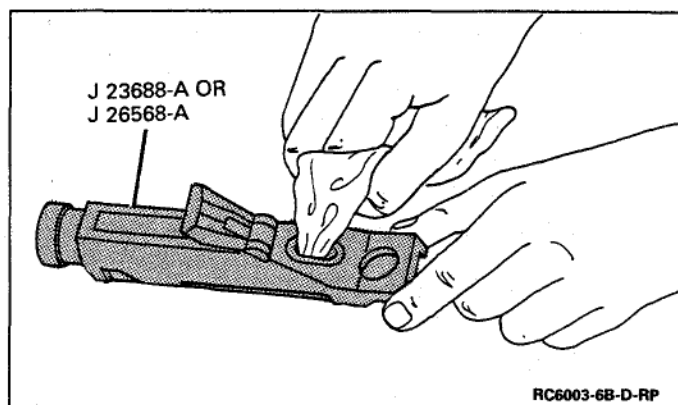

Figure 34 – Cleaning the Coolant Tester
Figures 34 through 36
- Make sure eyepiece of J 23688-A or J 26568-A is totally free of solution before looking through it. Refer to Figure 34.